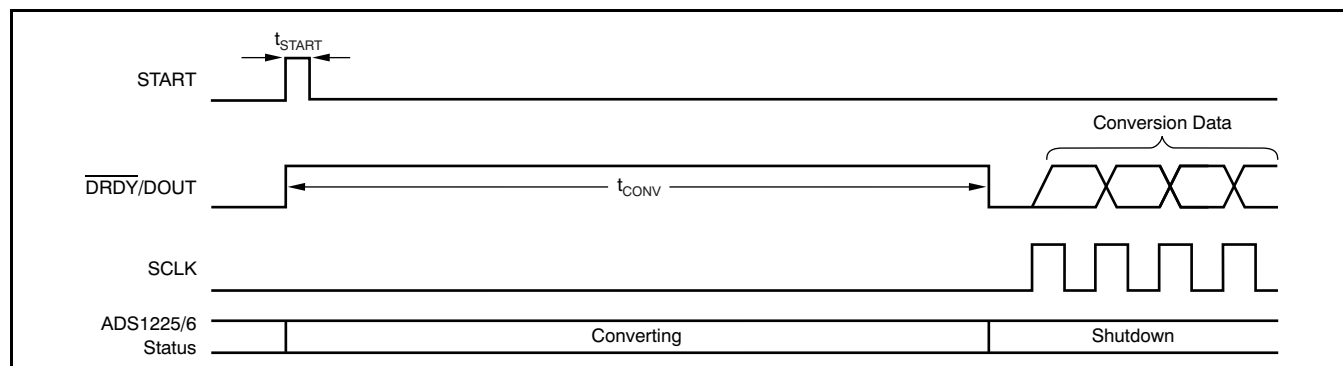

**Figure 26. Controlling Conversion with the START Pin**
The START pin provides easy and precise control of conversions. Pulse the START pin high to begin a conversion as shown in Figure 26 and Table 3. The completion of the conversion is indicated by the  $\overline{\text{DRDY}}$ /DOUT pin going low. Once the conversion completes, the ADS1225 and ADS1226 automatically shut down to save power. They stay shut down until START is once again taken high to begin a new conversion.
**Table 3. START Pin Conversion Times for Figure 26**